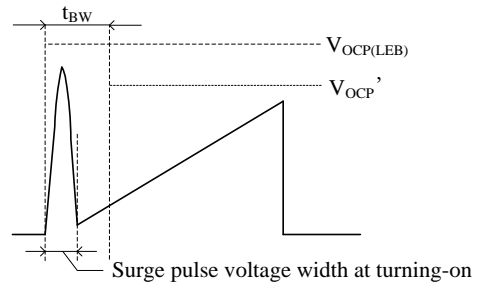
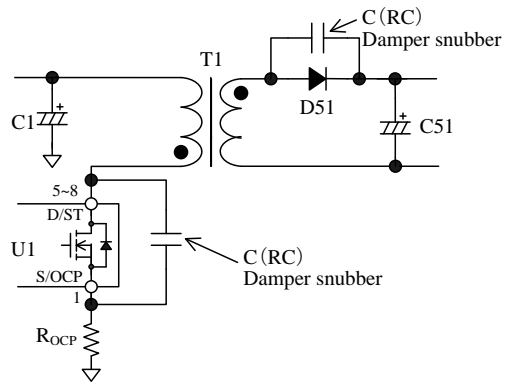

Figure 9-9 S/OCP pin voltage
Figure 9-10 Damper snubber
During Leading Edge Blanking Time, the OCP threshold voltage becomes $V_{OCP(LEB)} = 1.69\text{ V}$ which is higher than the normal OCP threshold voltage as shown in Figure 9-9. Changing to this threshold voltage prevents the IC from responding to the surge voltage in turning-on the power MOSFET. This function operates as protection at the condition such as output windings shorted or unusual withstand voltage of secondary-side rectifier diodes.
When the power MOSFET turns on, the surge voltage width of the S/OCP pin should be less than t_{BW} , as shown in Figure 9-9. In order to prevent surge voltage, pay extra attention to R_{OCP} trace layout (refer to Section 10.2). In addition, if a C (RC) damper snubber of Figure 9-10 is used, reduce the capacitor value of damper snubber.